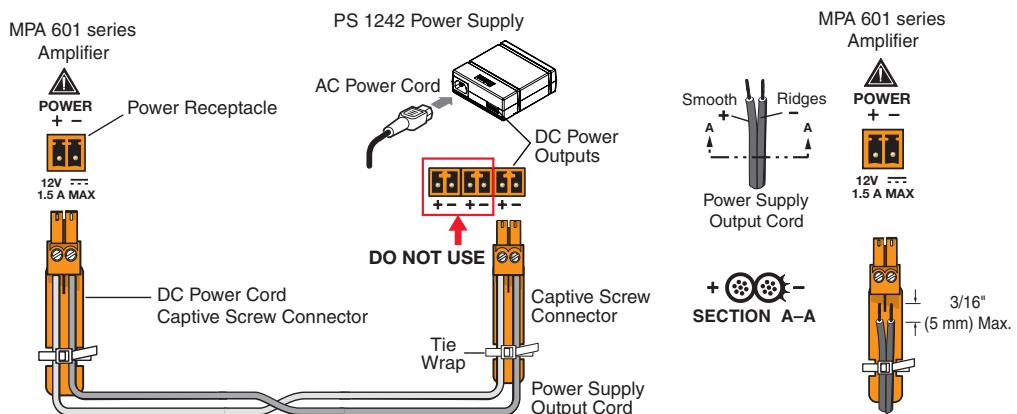

Figure 3. Connecting the PS 1242 Power Supply to the MPA 601 Amplifier
- A Power Connector** — A 50W desktop power supply is provided. Connect one end of the DC power cord to one of the 2-pole 3.5 mm captive screw outlets on the power supply. Connect the other end into the power connector on the rear panel of the amplifier as shown above. The power cord connectors are correctly wired when shipped (see figure 3 on the next page for instructions on connecting the power supply).